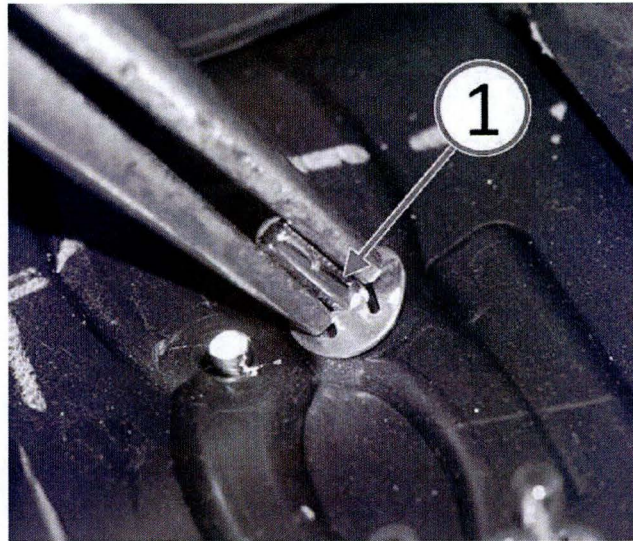

Fig. 2 Remove Name Plate Fasteners
2. From the back side of the instrument panel bezel, remove the "500" name plate fastener studs (1) in order to release the name plate from the bezel (Fig. 2).